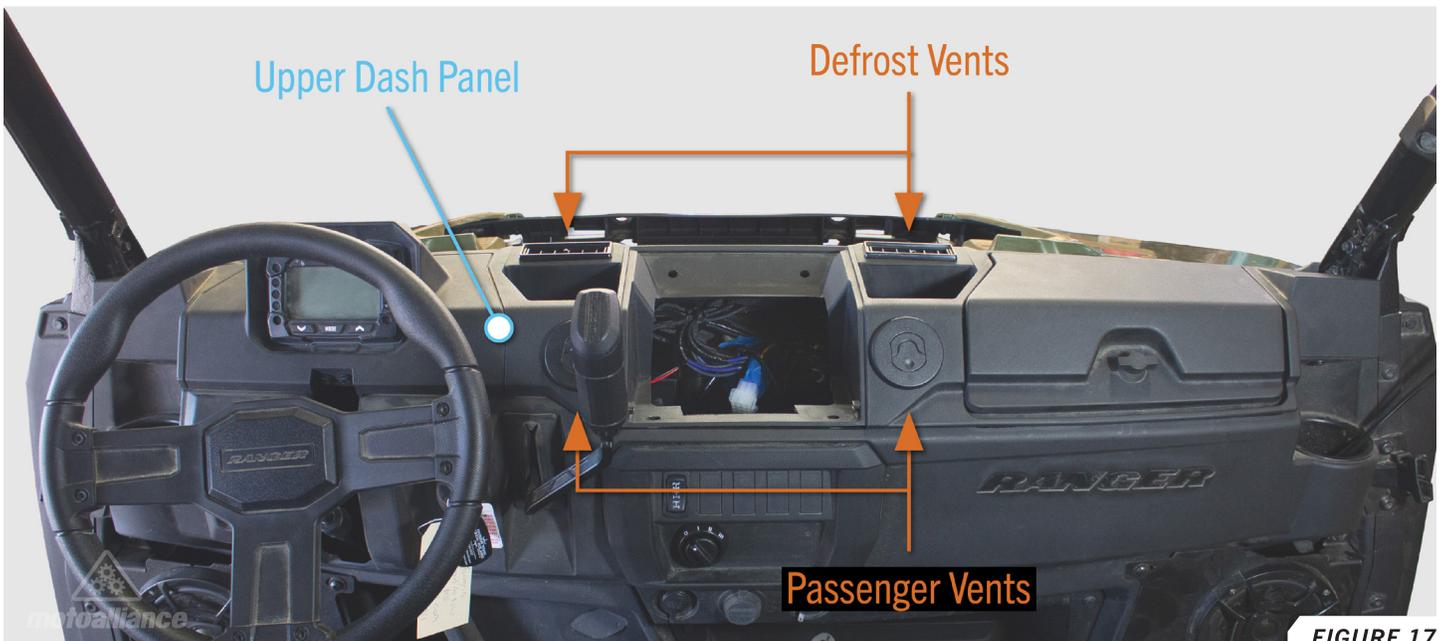

FIGURE 17
30. Attach the Delta and passenger vents to the upper dash panel. **FIGURE 17**